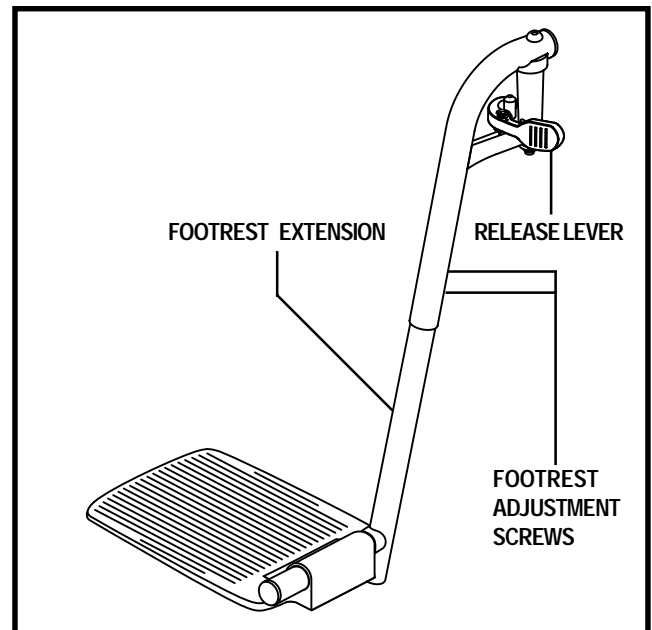

Figure 17. Swing-Away Footrests
1. Push in the release lever. See figure 17.
1. Remove the adjustment screws from the side of the footrest extension. See figure 17.